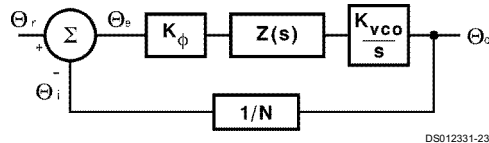
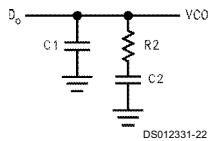

FIGURE 2. PLL Linear Model
FIGURE 3. Passive Loop Filter
A linear control system model of the phase feedback for a PLL in the locked state is shown in *Figure 2*. The open loop gain is the product of the phase comparator gain ($K\phi$), the VCO gain (K_{VCO}/s), and the loop filter gain $Z(s)$ divided by the gain of the feedback counter modulus (N). The passive loop filter configuration used is displayed in *Figure 3*, while the complex impedance of the filter is given in *Equation (2)*.